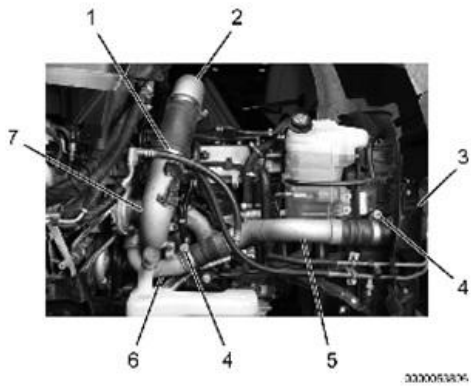

Figure 1. HP turbocharger Connections.
4. Remove air inlet duct clamp (Figure 1, Item 1) and remove air inlet duct (Figure 1, Item 2) from Low-Pressure (LP) turbocharger inlet duct (Figure 1, Item 7).
5. Remove two High-Pressure Charge Air Cooler clamps (Figure 1, Item 4) and remove HPCAC pipe (Figure 1, Item 5) from HPCAC (Figure 1, Item 3) and HP turbocharger outlet duct (Figure 1, Item 6).